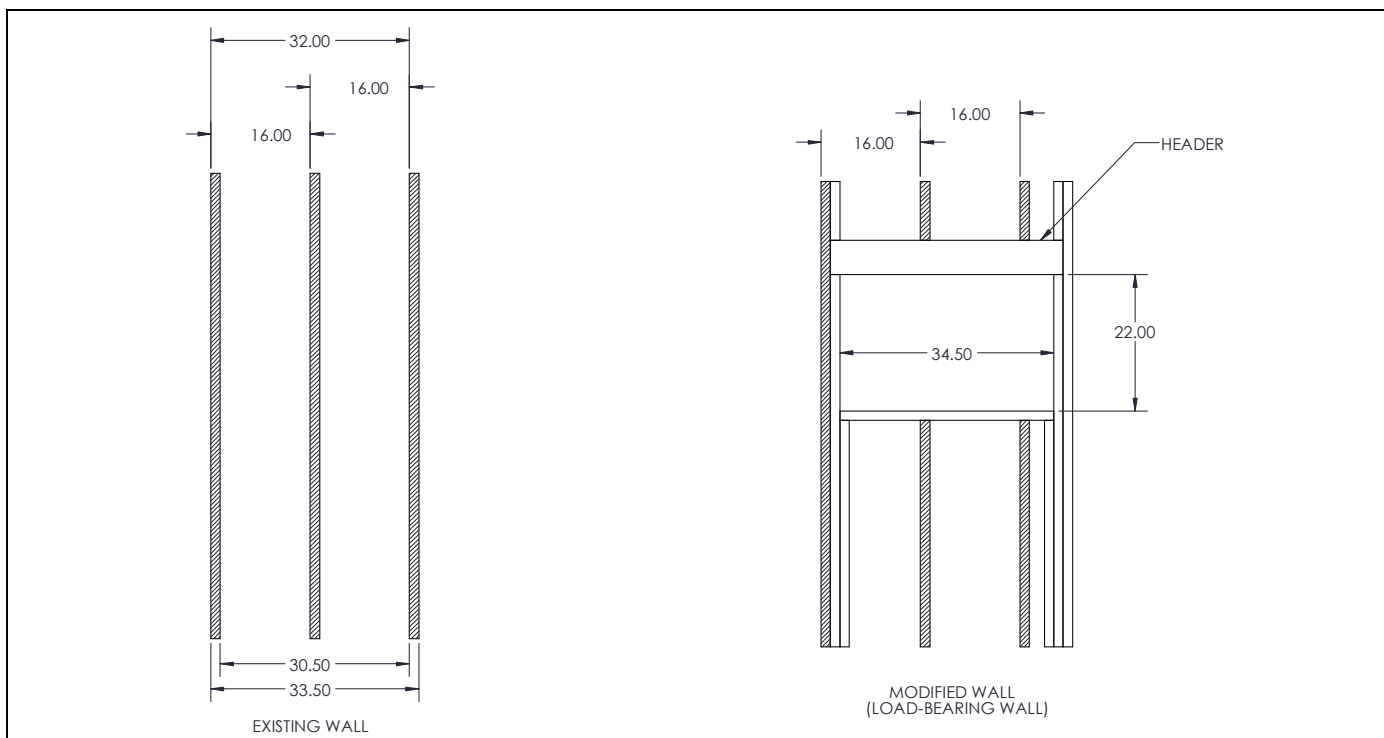

Figure 1
3. Remove exposed portion of wood studs flush with upper and lower drywall edges. (See Figure 1)